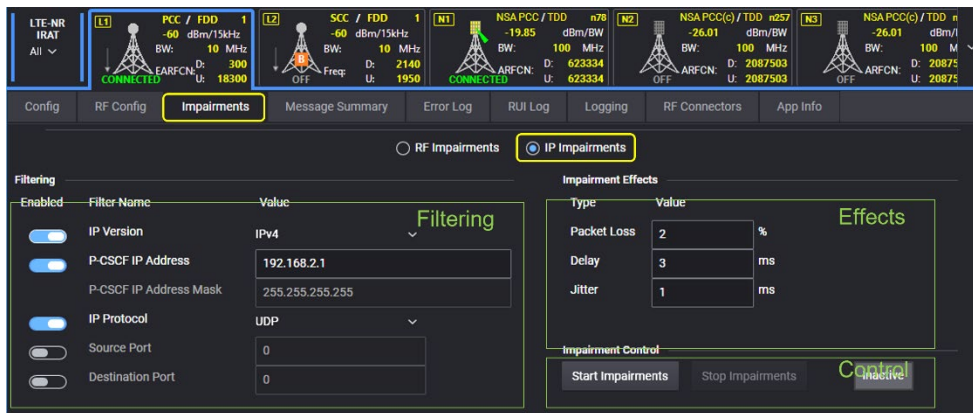

Figure 14. Add IP impairments to voice packets
- IP impairments for voice connections simulate packet loss, jitter, or delay (Figure 14)